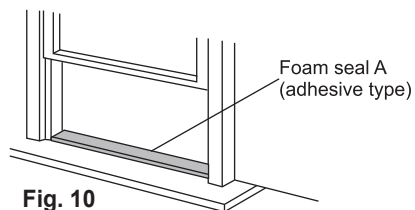

Fig. 10
1. Cut the foam seal (adhesive type) to the proper length and attach it to the window sill. See Fig. 10.